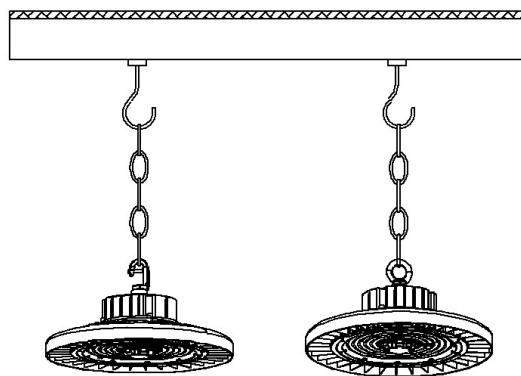

Fig. 3
3. Hang/Ring the fixture on suitable mounting place. See Fig. 3.